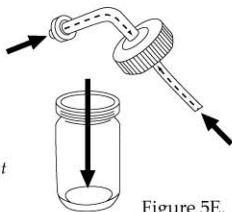

Figure 5E.
*Tritium.TS side siphon attachment*- Remove the siphon attachment and paint bottle assembly. Thoroughly clean the bottle and paint passageway through the bottle lid, including the plastic tubing. Refer to Figure 5E below. Also thoroughly clean the opening on the side of the airbrush.